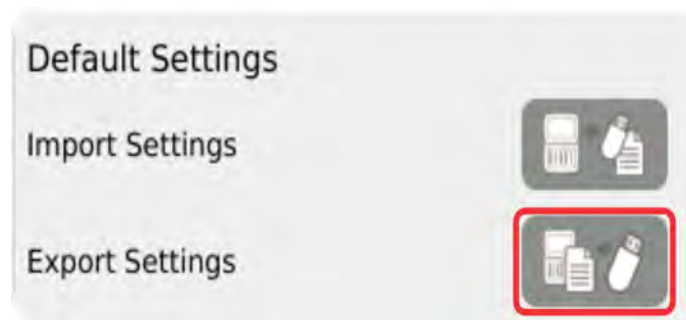

Figure 6-6 Export Default Screen Settings
3. In the Default Settings area of the System Setup screen, select the **Export Settings** button (refer to Figure 6-6).